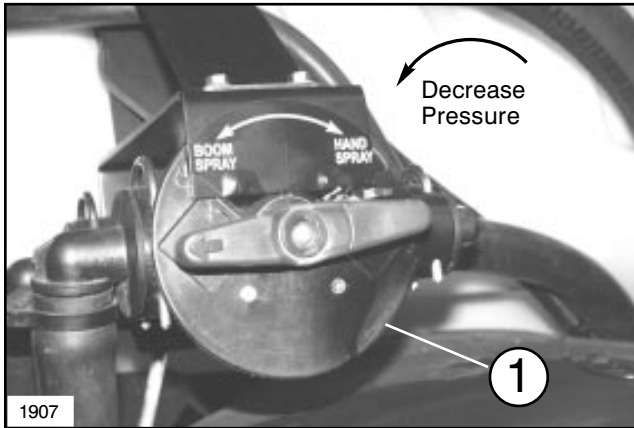

FIG. 1
1. For Boom Spray Three-Way Valve handle should be turned with arrow pointing toward the rear of vehicle. For Hand Spray, arrow on the Three-Way Valve handle should be pointing toward the front of the vehicle. See FIG. 1